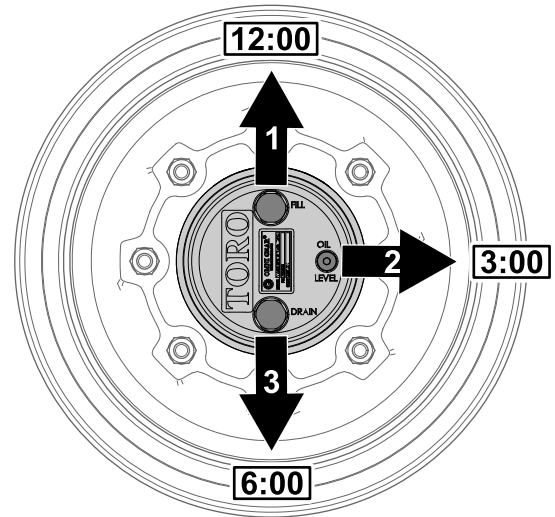

Figure 90
1. Park the machine on level surface, position the wheel so that the fill plug is at the 12 o'clock position, the check plug is at 3 o'clock position, and the drain plug is at the 6 o'clock position (Figure 90).
1. Park the machine on level surface, position the wheel so that the fill plug is at the 12 o'clock position, the check plug is at 3 o'clock position, and the drain plug is at the 6 o'clock position; refer to Figure 90 in Checking the Planetary Gear-Drive Lubricant (page 61).